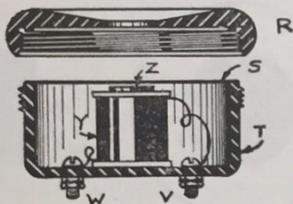

FIG 4
The other terminal (N) should be connected by three No. 28 insulated copper wires to the terminal (C) of the carbon button. The three small wires have more flexibility than one large one. The carbon diaphragm should now be put in place, and a receiver cap screwed on the transmitter as shown in Fig. 3. The transmitter will be more sensitive if a number of 1/4-inch holes are bored in the cap as shown in Fig. 4.